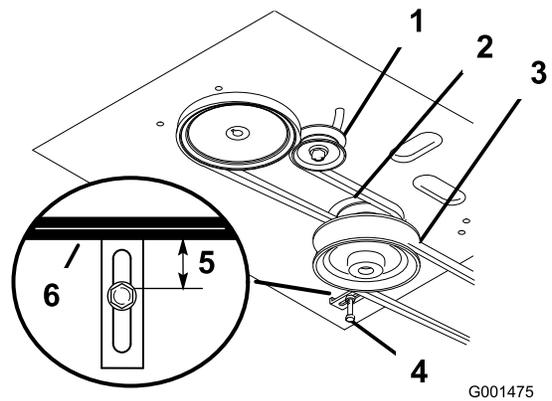

Figure 38
4. Remove the mower belt (Figure 38).
5. Loosen the pivot bolt enough to slide the idler pulley in the slot and remove the traction belt from the engine and the drive pulleys (Figure 38).
6. Install the new drive belt around the engine and the drive pulleys (Figure 38).
7. Slide the idler pulley in the engine frame to tension the traction belt (Figure 38).
8. Install the mower belt (Figure 38).
9. Check the belt guide under the engine frame for the proper adjustment (Figure 38).
13. Check the belt guide under the engine frame for the proper adjustment (Figure 38).